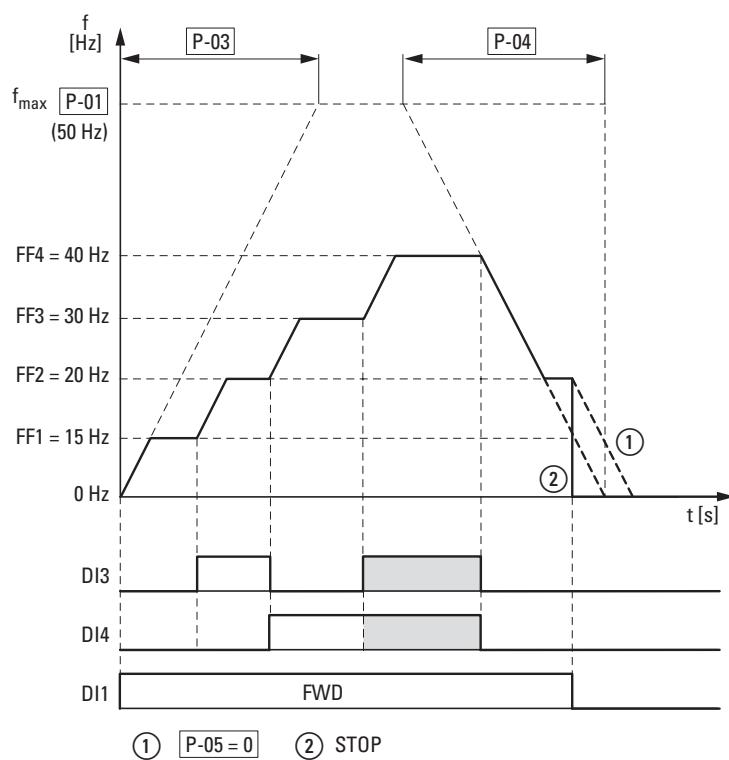

Figure 77: Example: Activation of the fixed frequencies with acceleration and deceleration ramps
The change between the individual fixed frequencies is done with the acceleration times and deceleration times set at P-03 and P-04. (→ Figure 77). When the FWD or REV enables are revoked, the output frequency is inhibited directly (2) (coasting to halt). When P-05 = 0, the drive performs a controlled deceleration (1).